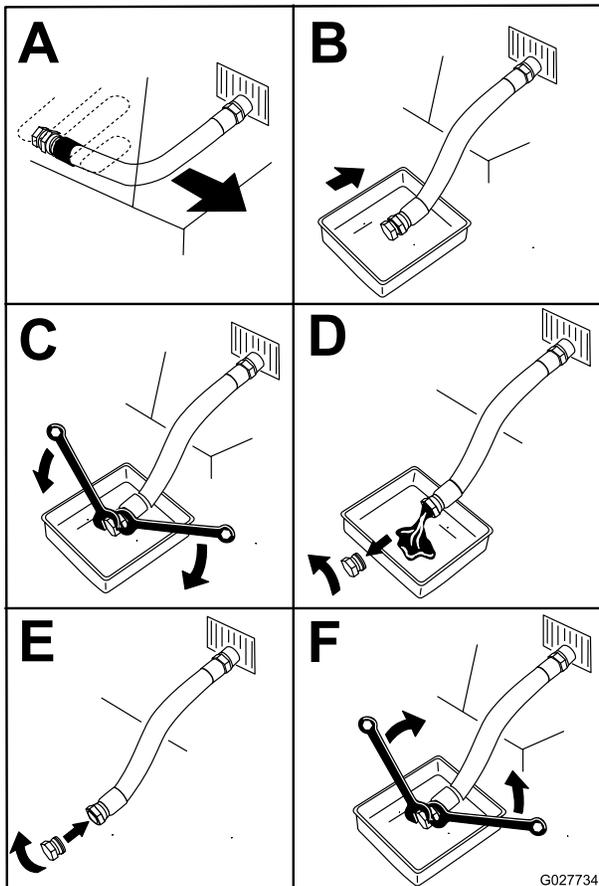

Figure 39
5. Drain the oil from the engine (Figure 39).